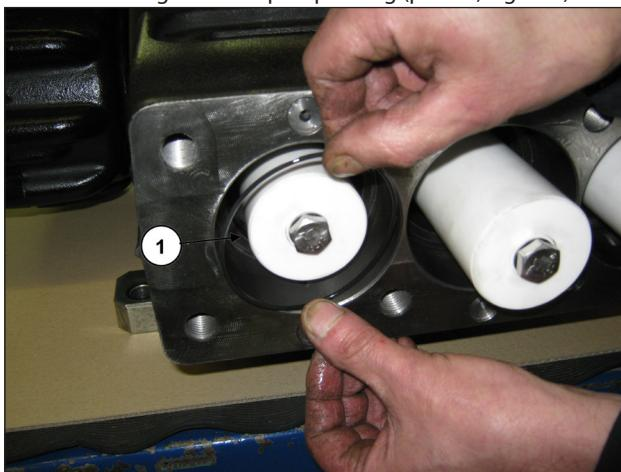

Fig. 116
Insert the O-rings into the pump casing (pos. ①, Fig. 116).